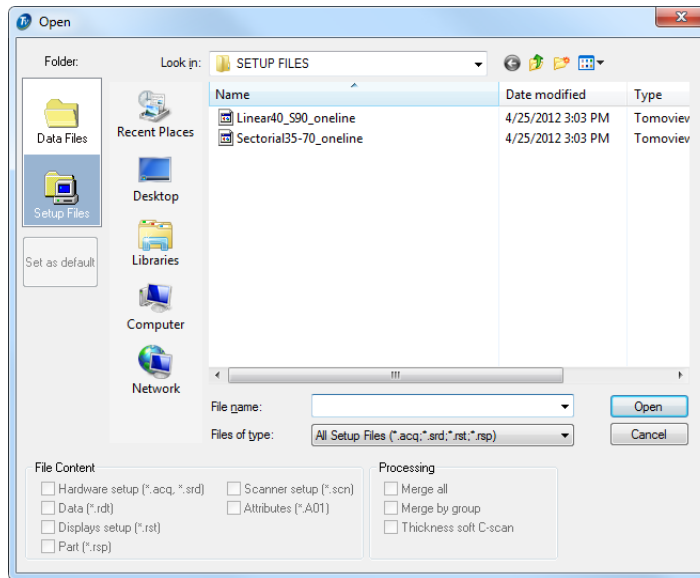

Figure 4-1 The Open dialog box
The **Open** dialog box appears (see Figure 4-1 on page 228).
2. In the **Open** dialog box that appears (see Figure 4-1 on page 228):